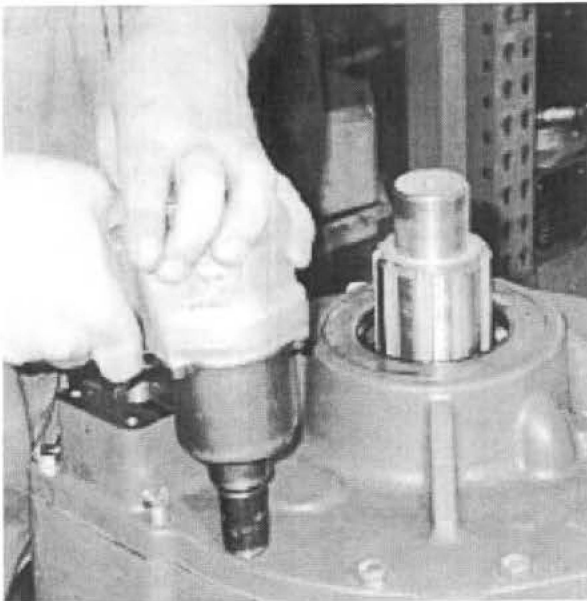

Fig. 25
25. Remove the fifteen (15) bolts holding the rear carrier to the transfer case housing. See Fig. 25.